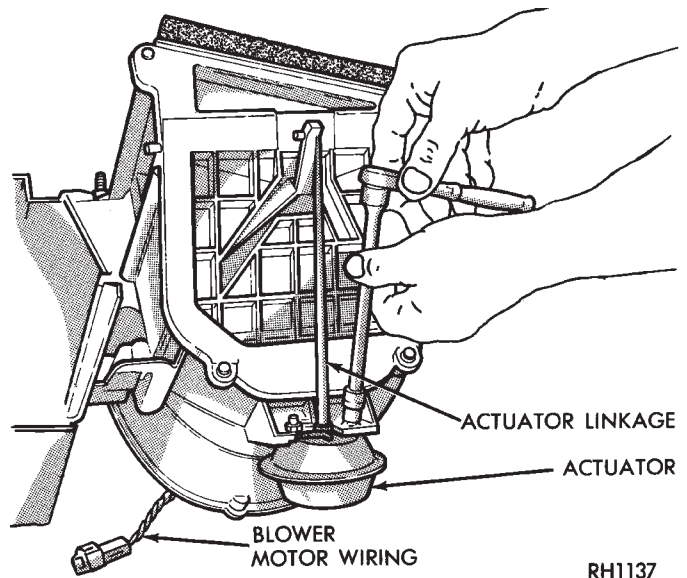

Fig. 22 Removing or Installing Fresh/Recirc Vacuum Actuator and Linkage
(6) Disconnect actuator linkage from fresh/recirculation door and vacuum lines from actuator. Loosen two nuts attaching actuator to housing and remove actuator (Fig. 22).